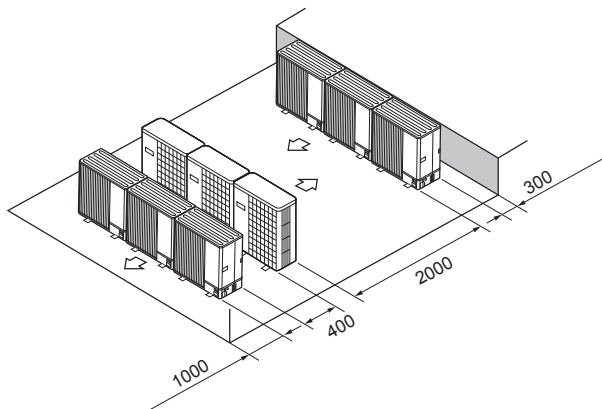

Fig. 1-18
- ⑥ Multiple parallel unit arrangement (Fig. 1-18)